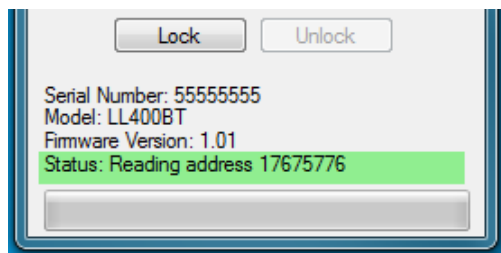

Figure 2.9.3
Step 2: Click on the 'Save' button. A sequence of events will display on the 'status' screen as illustrated in figures 2.9.3 through to 2.9.5.